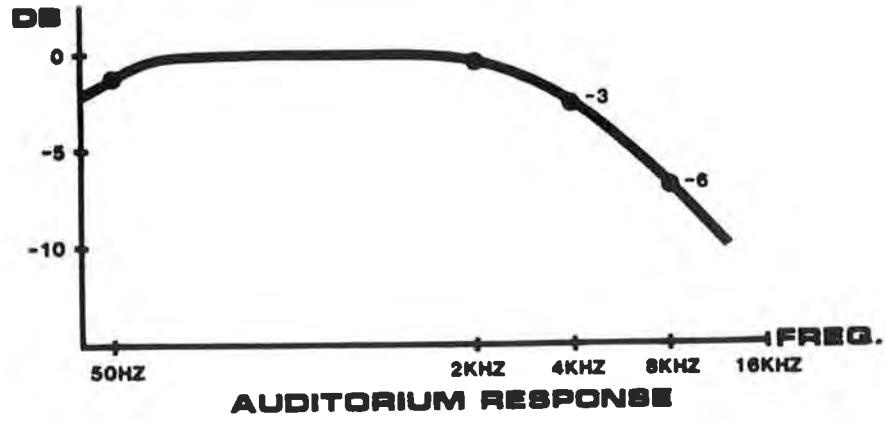

figure 10
(C) Adjust the controls on the HOUSE EQ card for the response in figure 10. Check that the response is similar (plus or minus 3 DB.) elsewhere in the auditorium. Reset the "85" DB. pressure level at the center of the auditorium. Move the rotary switch on the FORMAT card to "3" and repeat the equalization procedure for the center speaker. Follow the same procedure for channels "5" and "6". To adjust channels 2 & 4 you must TEMPORARILY connect the "MAG" automation terminal to "E". This removes the 200 HZ filters. Room equalization is done with the four band equalizer on the 70MM EQ/FILTER card; set for 85 db. Remove the automation jumper and set boom levels with the pots on the EQ/FILTER card.